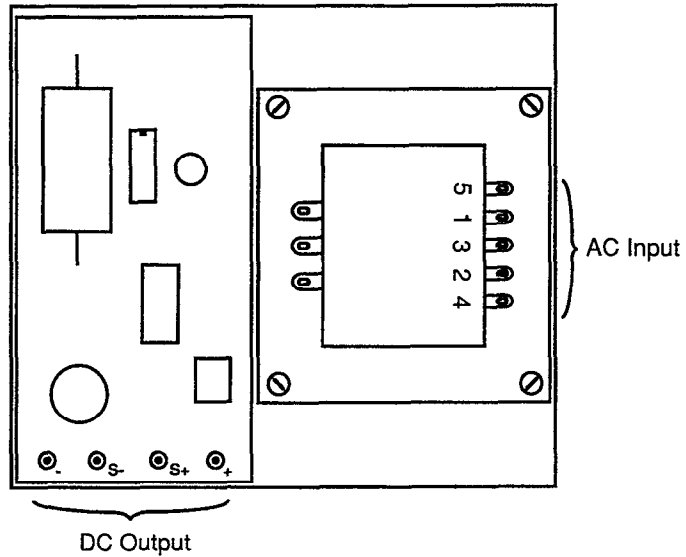

Figure 5-2. Power Supply Exploded View
3. Place the jumper across the appropriate pins as listed in Table 5-3. Also refer to Figure 5-2 for location of the jumpers.
Table 5-3 and Figure 5-2 refer to a Xentek supply. Sheet 1 of the Mother Board schematic shows jumpers for a Lambda supply.